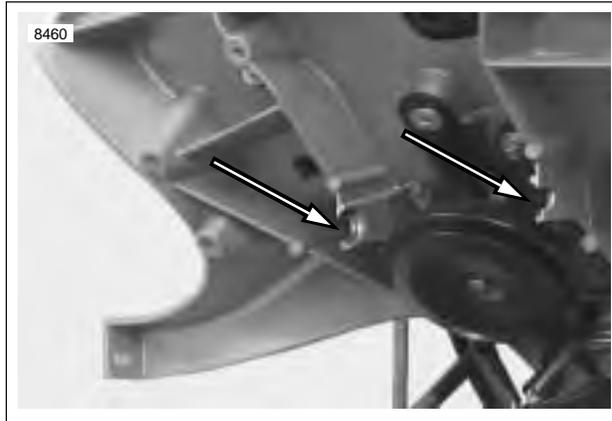

Figure 2-100. Headlamp Pivot Groove
1. See Figure 2-100. Position headlight pivot fasteners into groove of the headlight support bracket, flat side of nut lined up with groove.